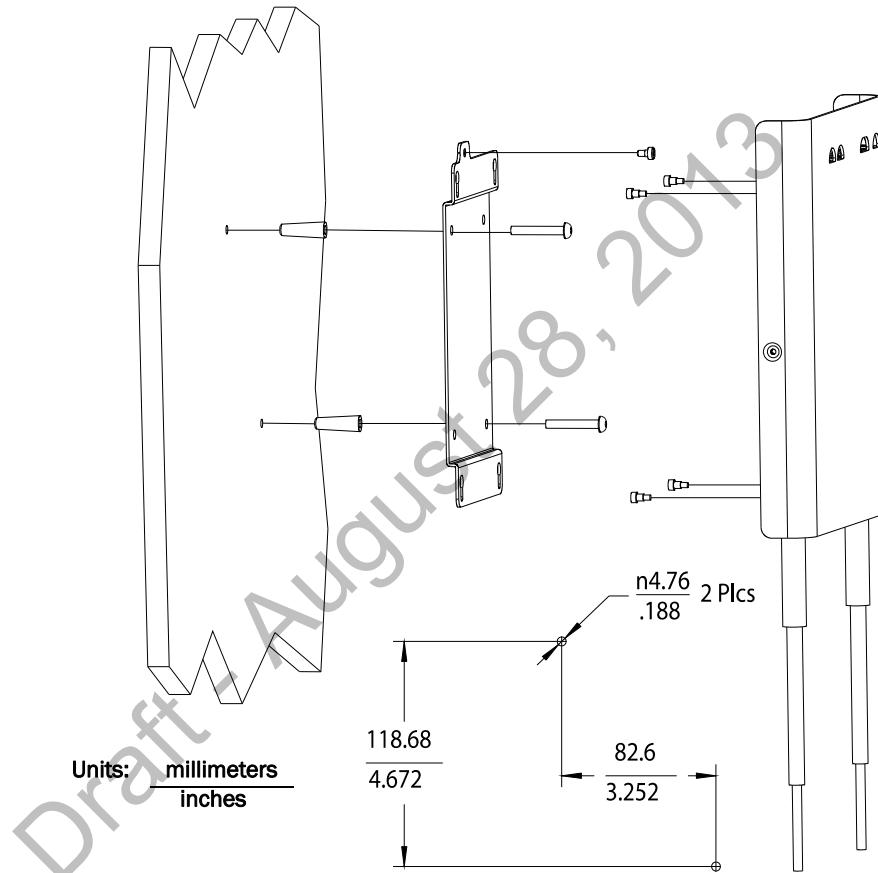

Figure 2-4: Mounting the IntelliVue Smart-hopping 1.4 GHz Core AP to a Wall (CA Earthquake Rated)
1. Using a 3/16-inch drill bit, drill two pilot holes 0.188 inches (5 mm) in diameter at the locations shown in Figure 2-4.
3. Secure the quick release wall plate to the wall by screwing a supplied #6 x 1 1/4 inch self-tapping screw through the wall plate into each screw anchor (or pilot hole) as shown in Figure 2-4.
4. Using a 5/64-inch (2 mm) Allen (i.e., hexagonal) wrench, secure the four supplied M3 X 0.5 hex-head shoulder screws to the back of the Core AP as shown in Figure 2-4. Torque-tighten each shoulder screw to 8-inch lbs.